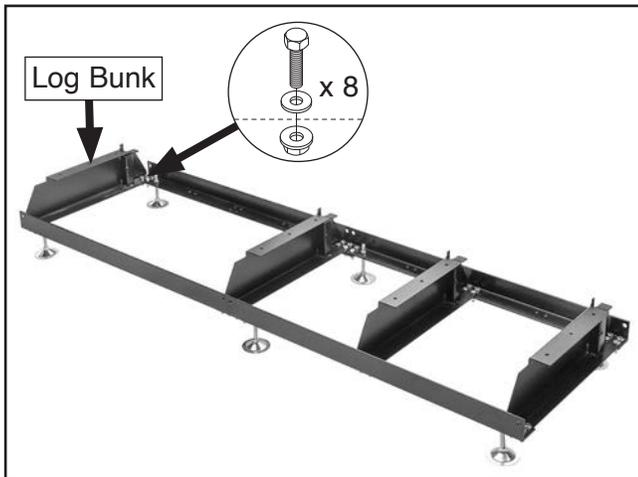

Figure 20. Rear log bunk installed on rails.
- Install last log bunk on rear rails with (8) M10-1.5 x 30 hex bolts, $\frac{3}{8}$ " flat washers, and M10-1.5 flange nuts (see **Figure 20**).
- Use 90° square to adjust rear log bunk square to rear rails, then tighten fasteners from **Step 9** (see **Figure 20**).